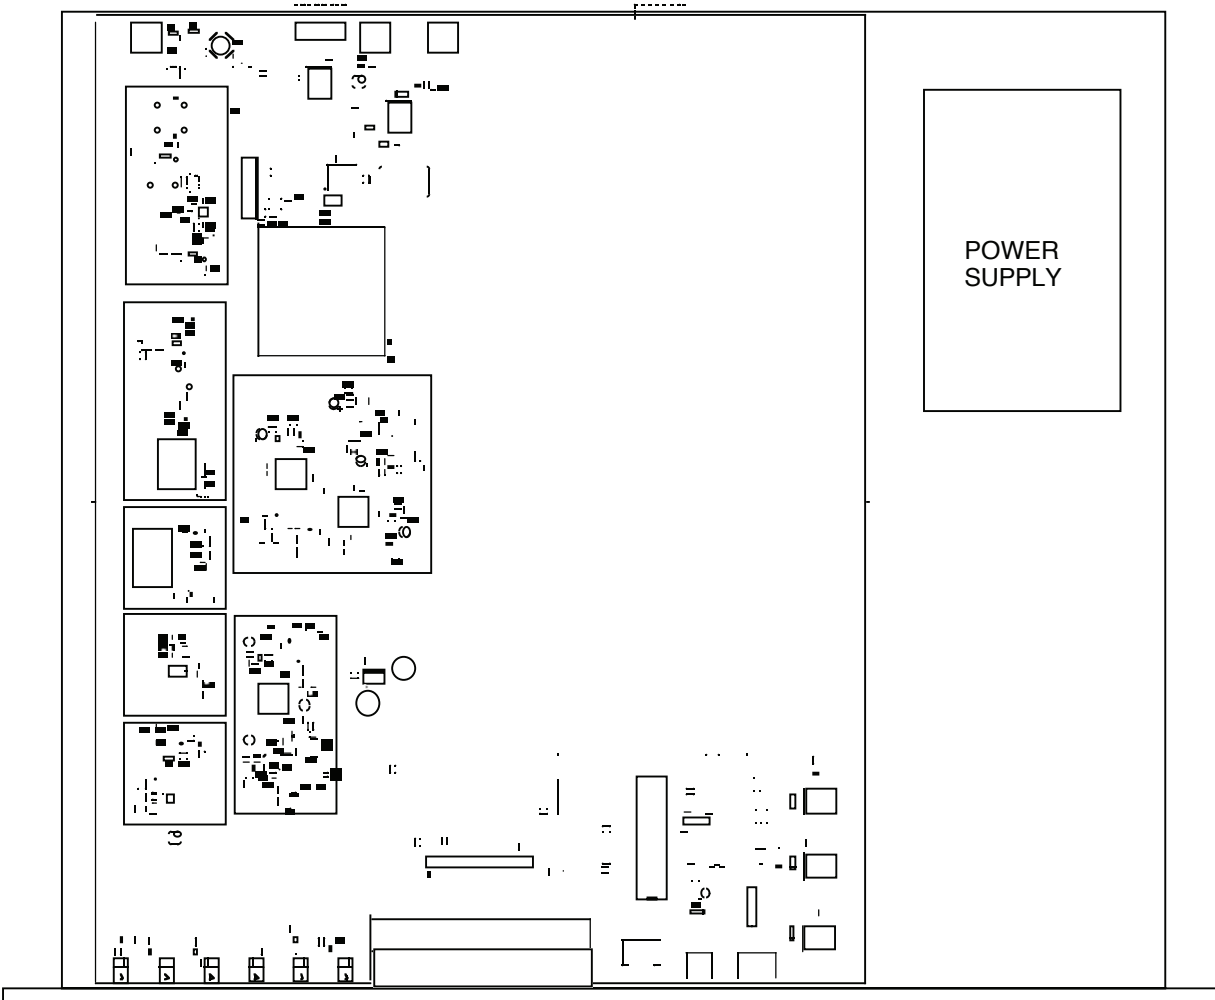

FIGURE 2.0 2015-75 Mechanical Assembly
2.1 Mechanical - The 2015-75 consists of one RF/Controller PCB housed in a 1 RU (1.75 inch high) by 16 inch deep chassis. A switching, ± 12 , +24, +5 VDC power supply provides power for the assemblies. The 2015-75 can be secured to a rack using the 4 holes on the front panel. Figure 2.0 shows how the 2015-75 is assembled.